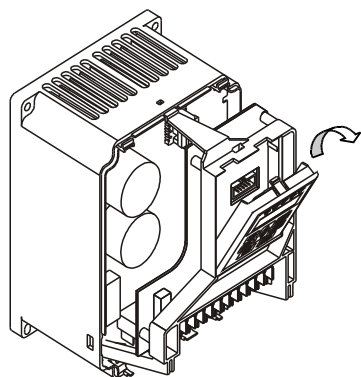

Fig. 3-8 Mounting Diagram of the operator panel and connecting wire of the inverter Model A
Step 2. Button up with hand at the chink of the upper part of operator panel and remove the operator panel (as shown in Figure 3-8).